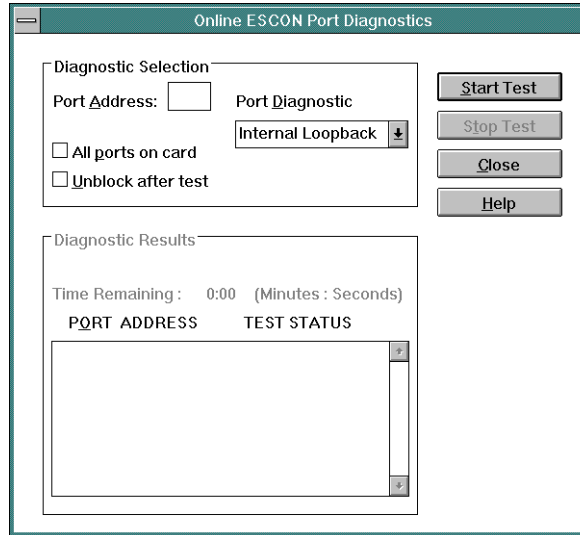

Figure 2-19. Online Port Diagnostics Dialog Box
The *Online ESCON Port Diagnostics* dialog box appears (Figure 2-19)
- Click the *Yes* button to shut down the tests. The *Online Port Diagnostics* dialog box appears (Figure 2-19).